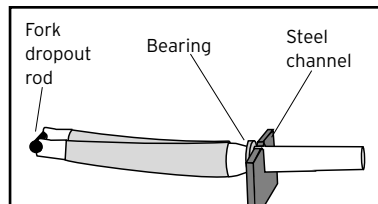

Fig. 28
1. Place the steel channel in a vise. Place the Fork dropout rod in the fork dropouts (Fig. 28) and snug up the attachment bolts.